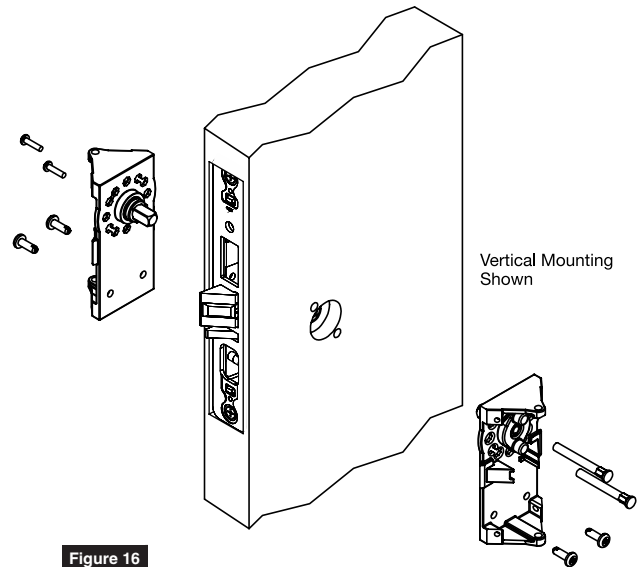

Figure 16
6. Install chassis. (Figure 16)
- Through-bolt two (2) chassis' to each other in orientation determined in step 5.
- Insert two (2) mounting posts through outside chassis, then secure with two (2) #8-32 x 5/8" machine screws through inside chassis. **Do not tighten fully at this point.**
- Locate, mark and drill for two (2) screws, to be located at other end of chassis.